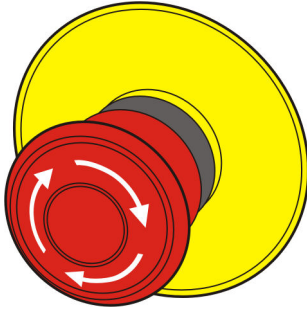

Fig. 46: Emergency-stop button
1. ➤ Press the emergency-stop button (Fig. 46) immediately.